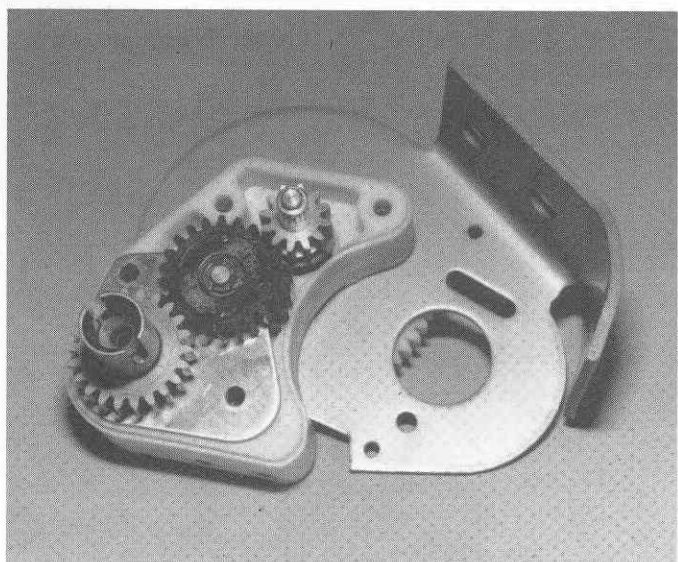

Fig. 85
- ☐ **Fig. 85** Set the idler gear assembly into the housing, as shown.